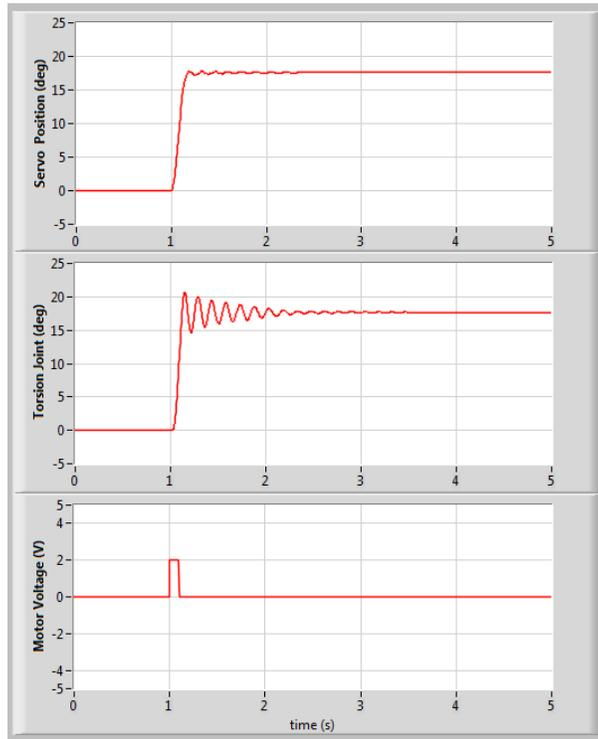

Figure 2.4: Typical Torsion Free Oscillation Response
2. Run the VI. The servo should begin tracking the reference angle. The *theta1 (deg)* and *theta2 (deg)* scopes should be reading a response similarly as shown in Figure 2.4. Note that the controller is set to run for 5 seconds.